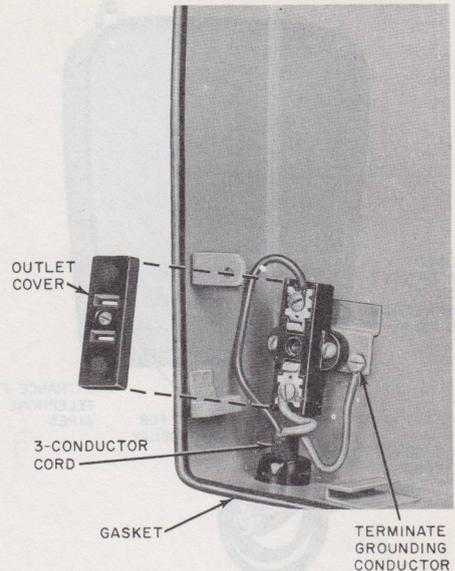

Fig. 4—Power Cord Termination
- Terminate 3-conductor cord as shown in Fig. 4.
- Be sure that the gasket on the backbox is in place (Fig. 4).